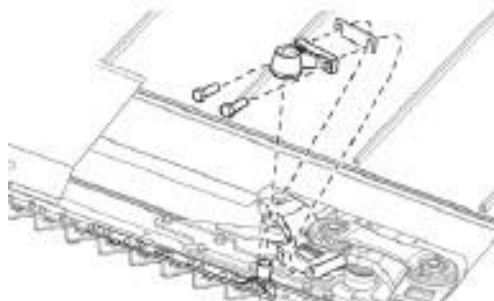

Figure 123
4. Remove the bearing housing from the right-hand knife head. Figure 123